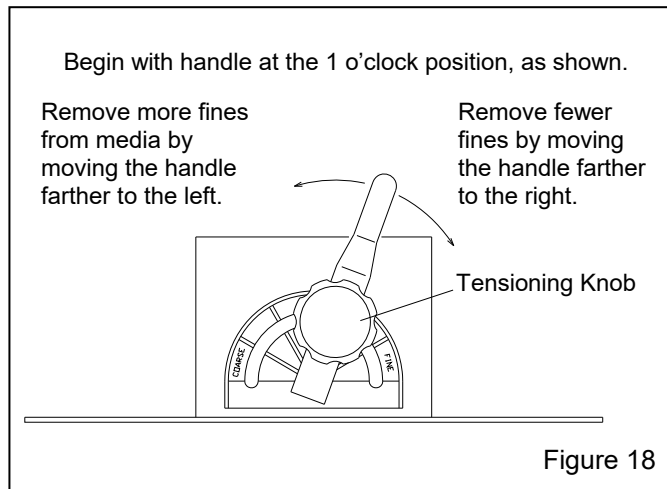

Figure 18
5.4.1 The vortex cylinder is located atop the reclaimer where the flex hose connects. Adjustments are made by loosening the handle's tensioning knob and moving the handle to achieve the correct setting. When the correct setting is established, tighten the locking knob to prevent movement. Start with the lever slightly to the right (about 1 o'clock, as shown in Figure 18) of the vertical position.